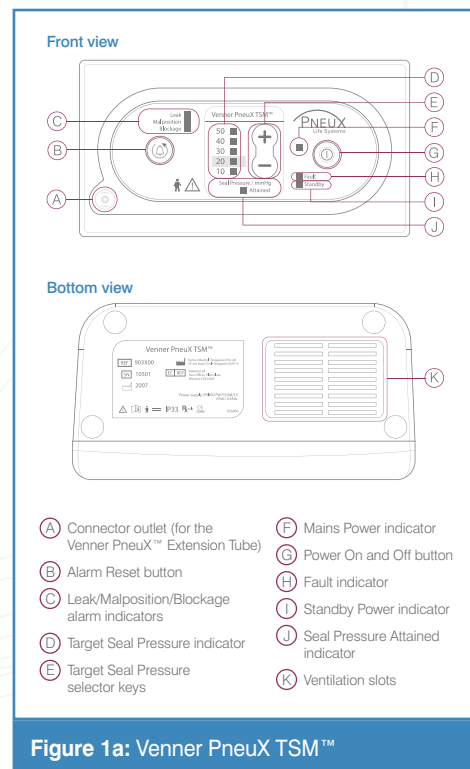
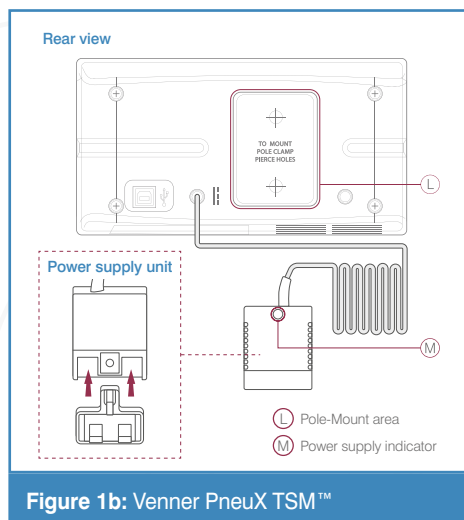
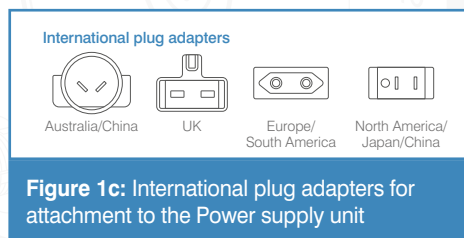
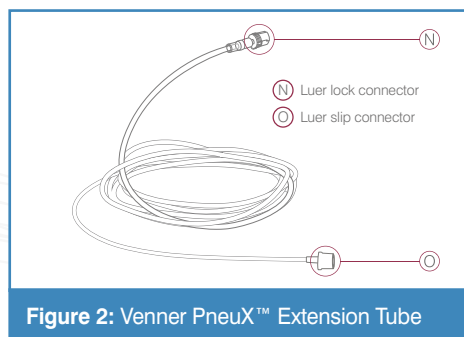

Figure 1a: Venner PneuX TSM™
Figure 1b: Venner PneuX TSM™
Figure 1c: International plug adapters for attachment to the Power supply unit
Figure 2: Venner PneuX™ Extension Tube
The Venner PneuX TSM™ (Figures 1a and 1b) is an automated cuff pressure controller designed to be used with the Venner PneuX™ Endotracheal Tube (ETT) and Tracheostomy Tube (TT) as a complete system.
The Venner PneuX TSM™ Cuff Pressure Controller has an attached Power supply unit, audible alarms, LED light indicators and function buttons (refer to Section 3: Alarms, Buttons and Indicators). It is supplied with four international plug adapters (Figure 1c), a pole clamp and two long screws (5 mm x 14 mm) for mounting purposes if required.
The 2-metre single use Venner PneuX™ Extension Tube (Figure 2) connects the Venner PneuX TSM™ with the Venner PneuX™ ETT/TT. One end of the tube is a uniquely designed Luer lock connector for attachment to the Connector outlet on the Venner PneuX TSM™ and the other end is a Luer slip connector which has a protective sleeve impeding connection to Luer lock devices for attachment to the pilot valve of the Venner PneuX™ ETT/TT.
Position Venner PneuX TSM™ on a suitable flat surface or on a drip pole. For attachment to a drip pole pierce through the two target points on the Pole-Mount area (Figure 1b:L) of the device. Attach the clamp to the device using the long screws provided and thereafter, secure tightly to the drip pole.
Attach the appropriate international plug adapter (Figure 1c) to the Power supply unit by sliding its vertical slots through the bottom of the Power supply unit (Figure 1b). Begin operating the Venner PneuX TSM™ by connecting the Power supply unit to a power outlet and observe a GREEN light appearing on the Power supply indicator (Figure 1b:M) to confirm there is power. A RED light from the Standby Power indicator (Figure 1a:I) should also illuminate. If no light appears on either indicators, check the connection.
Proceed to attach the Luer lock connector (Figure 2:N) of the Venner PneuX™ Extension Tube to the Connector outlet (Figure 1a:A) on the Venner PneuX TSM™, and the Luer slip connector (Figure 2:O) firmly pushed into place with the pilot valve of the ETT/TT (to open up the valve) for a leak-free, secure connection. Ensure that there is no accidental pulling or tugging of the Extension Tube.
Switch on the Venner PneuX TSM™ by pressing the Power On and Off button (Figure 1a:G). All LED indicator lights will flash rapidly five times before adjusting to the default seal pressure illuminated by the Target Seal Pressure indicator (Figure 1a:D). The default seal pressure setting is 20 mmHg (approx. 30 cmH2O) unless a user change this using the Target Seal Pressure Selector Keys (Figure 1a:E). During normal operation, all 3 lights (Mains Power indicator (Figure 1a:F), Target Seal Pressure indicator and Seal Pressure Attained indicator (Figure 1a:J) will illuminate at all times.
**CAUTION: Should any of the three lights not illuminate, press the Alarm Reset button (Figure 1a:B) to reset Venner PneuX TSM™. If this does not work, do not use the Venner PneuX TSM™ and disconnect the Extension Tube (refer to Section 2.4: Disconnection). Contact the local distributor for technical support and/or replacement.**
#### Alarm Reset button (Figure 1a:B)
#### Leak, Malposition and Blockage alarm indicators (Figure 1a:C)
#### Target Seal Pressure indicator (Figure 1a:D)
#### Target Seal Pressure Selector Keys (Figure 1a:E)
#### Mains Power indicator (Figure 1a:F)
#### Power On and Off button (Figure 1a:G)
#### Fault indicator (Figure 1a:H)